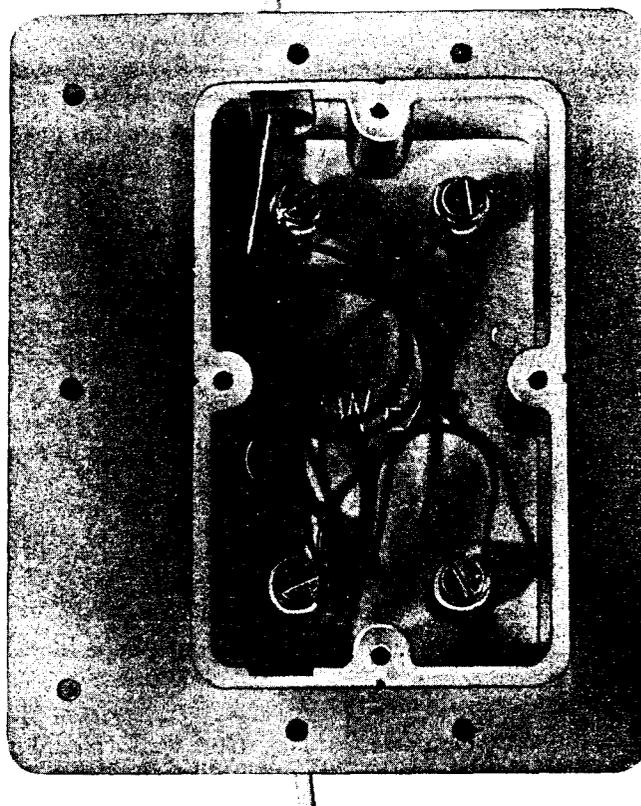

Fig. 1 — 800A Station Wire Box
**1.03** The 800A station wire box is made of a high impact plastic with four terminal points inside and a mounting flange around the outer edge (Fig. 1). The box is designed to complement the one-stop prewire concept of the "Customer Participation Products" plan.